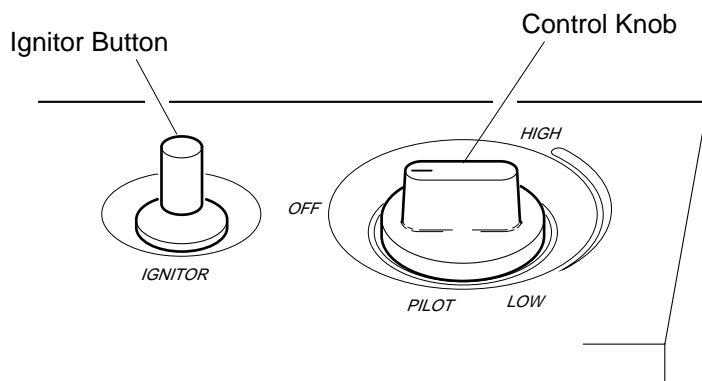

Figure 18 - Control Knob In The OFF Position
4. Wait five (5) minutes to clear out any gas. Then smell for gas, including near the floor. If you smell gas, **STOP!** Follow “B” in the safety information at the top of page 20. If you don’t smell gas, go to the next step.
5. Press in control knob and turn counterclockwise  to the **PILOT** position. Keep control knob pressed in for five (5) seconds (see Figure 18).